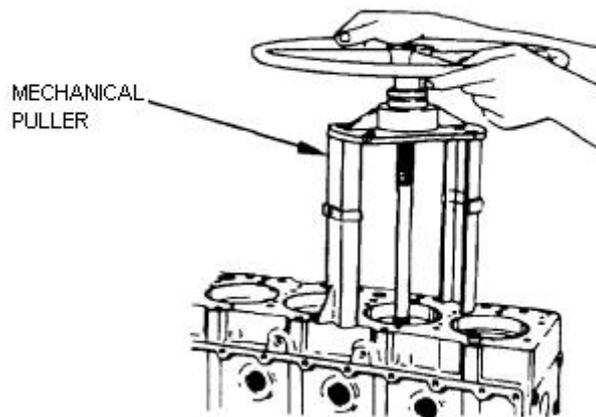

Figure 34 Removing the Cylinder Liners
- c. Operate the mechanical puller and withdraw the liner from the engine block (Figure 34).